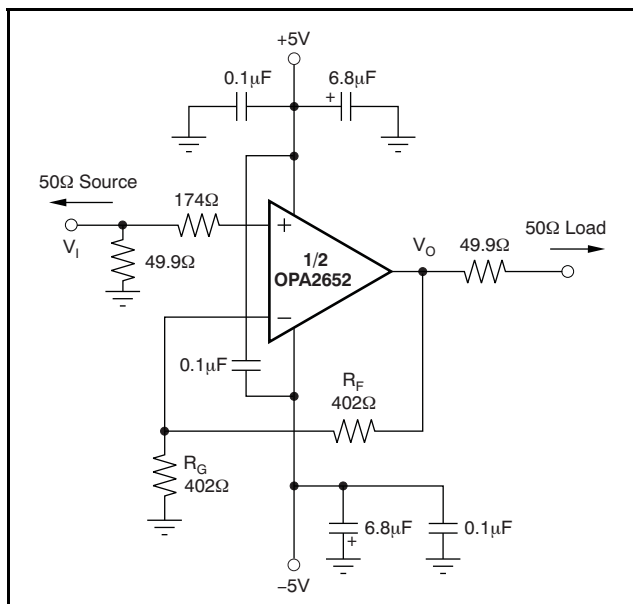
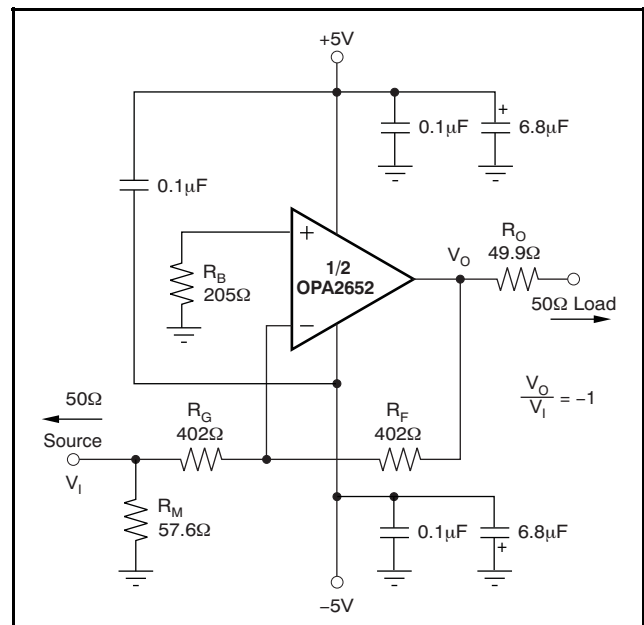

Figure 28. DC-Coupled, $G = +2$, Bipolar Supply, Specification and Test Circuit
Figure 29. DC-Coupled, $G = -1$, Bipolar Supply, Specification and Test Circuit
At $T_A = +25^\circ C$, $G = +2$, $R_F = 402\Omega$, and $R_L = 100\Omega$, unless otherwise noted. See Figure 28 and Figure 29 for AC performance only.
At $T_A = +25^\circ C$, $G = +2$, $R_F = 402\Omega$, and $R_L = 100\Omega$, unless otherwise noted. See Figure 28 and Figure 29.
Figure 28 shows the DC-coupled, gain of +2, dual power-supply circuit configuration used as the basis of the $\pm 5\text{V}$ specifications and typical characteristics. This configuration is for one channel. The other channel is connected similarly. For test purposes, the input impedance is set to 50Ω with a resistor to ground and the output impedance is set to 50Ω with a series output resistor.
Voltage swings reported in the specifications are taken directly at the input and output pins, while output powers (dBm) are at the matched 50Ω load. For the circuit of Figure 28, the total effective load will be $100\Omega \parallel 804\Omega$. Two optional components are included in Figure 28.
Figure 29 shows the DC-coupled, gain of -1 , bipolar supply circuit configuration that is the basis of the specifications and typical characteristics at $G = -1$. The input impedance matching resistor (57.6Ω) used for testing gives a 50Ω input load. A resistor (205Ω) connects the noninverting input to ground. This configuration provides the DC source resistance matching to cancel outputs errors arising from input bias current.
A good rule of thumb is to target the parallel combination of R_F and R_G (see Figure 28) to be less than approximately 300 Ω . The combined impedance $R_F \parallel R_G$ interacts with the inverting input capacitance, placing an additional pole in the feedback network, and thus a zero in the forward response. Assuming a 2pF total parasitic on the inverting node, holding $R_F \parallel R_G < 300\Omega$ keeps this pole above 250MHz. By itself, this constraint implies that the feedback resistor R_F can increase to several k Ω at high gains. This increase is acceptable as long as the pole formed by R_F and any parasitic capacitance appearing in parallel is kept out of the frequency range of interest.
Voltage feedback op amps exhibit decreasing closed-loop bandwidth as the signal gain is increased. In theory, this relationship is described by the Gain Bandwidth Product (GBP) shown in the specifications. Ideally, dividing GBP by the noninverting signal gain (also called the Noise Gain, or NG) predicts the closed-loop bandwidth. In practice, this prediction only holds true when the phase margin approaches 90°, as it does in high gain configurations. At low gains (increased feedback factor), most amplifiers exhibit a wider bandwidth and lower phase margin. The OPA2652 is compensated to give a flat response in a noninverting gain of 1 (see Figure 28). This configuration results in a typical gain of +1 bandwidth of 700MHz, far exceeding that predicted by dividing the 200MHz GBP by $NG = 1$. Increasing the gain
Because the OPA2652 is a general-purpose, wideband voltage feedback op amp, all of the familiar op amp application circuits are available to the designer. Inverting operation is one of the more common requirements and offers several performance benefits. Figure 29 shows a typical inverting configuration.
In the inverting configuration, three key design considerations must be noted. First, the gain resistor (R_G) becomes part of the signal channel input impedance. If input impedance matching is desired (which is beneficial whenever the signal is coupled through a cable, twisted pair, long PCB trace or other transmission line conductor), R_G may be set equal to the required termination value and R_F adjusted to give the desired gain. This approach is the simplest, and results in optimum bandwidth and noise performance. However, at low inverting gains, the resulting feedback resistor value can present a significant load to the amplifier output. For an inverting gain of -1 , setting R_G to 50 Ω for input matching eliminates the need for R_M but requires a 50 Ω feedback resistor. This configuration has the interesting advantage that the noise gain becomes equal to 2 for a 50 Ω source impedance—the same as the noninverting circuits considered above. However, the amplifier output now sees the 50 Ω feedback resistor in parallel with the external load. In general, the feedback resistor should be limited to the 200 Ω to 1.5k Ω range. In this case, it is preferable to increase both the R_F and R_G values as shown in Figure 29, and then achieve the input matching impedance with a third resistor (R_M) to ground. The total input impedance becomes the parallel combination of R_G and R_M .
The second major consideration, touched on in the previous paragraph, is that the signal source impedance becomes part of the noise gain equation and influences the bandwidth. For the example in Figure 29, the R_M value combines in parallel with the external 50 Ω source impedance, yielding an effective driving impedance of $50\Omega \parallel 57.6\Omega = 26.8\Omega$. This impedance is added in series with R_G for calculating the noise gain (NG). The resulting NG is 1.94 for Figure 29 (an ideal source would cause $NG = 2.00$).
error, as a result of the input bias currents, is reduced to (Input Offset Current) • R_F . If the 50 Ω source impedance is DC-coupled in Figure 29, the total resistance to ground on the inverting input will be 429 Ω . Combining this in parallel with the feedback resistor gives 208 Ω , which is close to the $R_B = 205\Omega$ used in Figure 29. To reduce the additional high-frequency noise introduced by this resistor, it is sometimes bypassed with a capacitor. As long as $R_B < 300\Omega$, the capacitor is not required since its total noise contribution is much less than that of the op amp input noise voltage.
The OPA2652 provides good distortion performance into a 100 Ω load on $\pm 5V$ supplies. Increasing the load impedance improves distortion directly. Remember that the total load includes the feedback network; in the noninverting configuration (Figure 28), this is sum of $R_F + R_G$, while in the inverting configuration, it is only R_F . Also, providing an additional supply decoupling capacitor (0.1 μF) between the supply pins (for bipolar operation) improves the 2nd-order distortion slightly (3dB to 6dB).
Evaluating these two equations for the OPA2652 circuit and component values shown in Figure 28 gives a total output spot noise voltage of $17\text{nV}/\sqrt{\text{Hz}}$ and a total equivalent input spot noise voltage of $8.4\text{nV}/\sqrt{\text{Hz}}$. This noise includes the noise added by the bias current cancellation resistor (205Ω) on the noninverting input. This total input-referred spot noise voltage is only slightly higher than the $8\text{nV}/\sqrt{\text{Hz}}$ specification for the op amp voltage noise alone. This result will be the case as long as the impedances appearing at each op amp input are limited to the previously recommend maximum value of 300Ω . Keeping both $(R_F \parallel R_G)$ and the noninverting input source impedance less than 300Ω satisfies both noise and frequency response flatness considerations. Since the resistor-induced noise is relatively negligible, additional capacitive decoupling across the bias current cancellation resistor (R_B) for the inverting op amp configuration of Figure 29 is not required.
The balanced input stage of a wideband voltage feedback op amp allows good output DC accuracy in a wide variety of applications. Although the high-speed input stage does require relatively high input bias current (typically $4\mu\text{A}$ out of each input terminal), the close matching between them may be used to significantly reduce the output DC error caused by this current. This reduction is done by matching the DC source resistances appearing at the two inputs. This matching reduces the output DC error resulting from the input bias currents to the offset current times the feedback resistor. Evaluating the configuration of Figure 28, using worst-case $+25^\circ\text{C}$ input offset voltage and current specifications, gives a worst-case output offset voltage equal to:
As an example, compute the maximum T_J using an OPA2652E (SOT23-8 package) in the circuit of Figure 28 operating at the maximum specified ambient temperature of +85°C and with both outputs driving 2.5V_{DC} into a grounded 100Ω load.